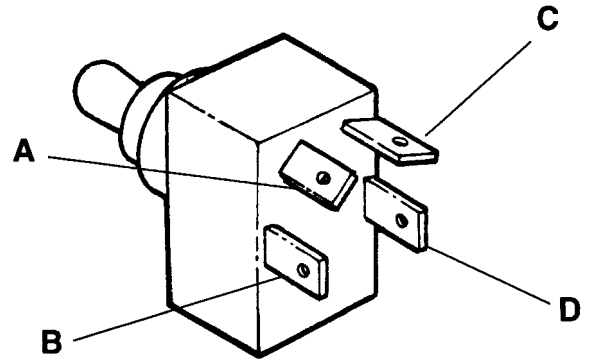

FIGURE 3.13
1. Disconnect wires from the Switch Terminals. See Figure 3.13.